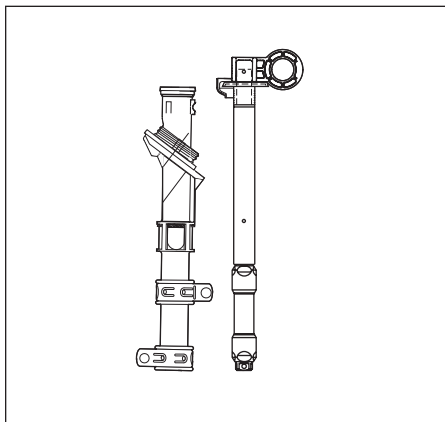

Figure 11.
***Silver Plated Bay-O-Net with inner holder, fuse cartridge and end plug. (Figure 11)	4000361C89FV